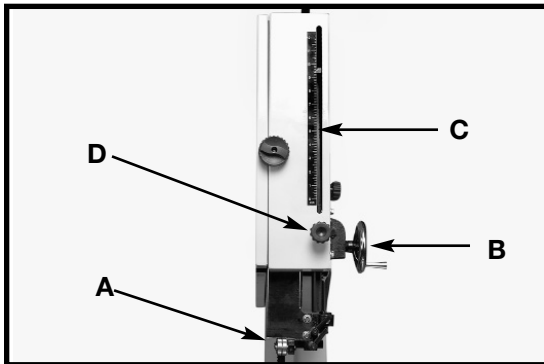

Fig. 21
Set the upper blade guide assembly (A) Fig. 21 as close as possible to the top surface of the workpiece by loosening the lock knob (D) and turning the handle (B) until the guide assembly is in the correct position. A scale (C) Fig. 21 in increments of 1/8" is located above the assembly.